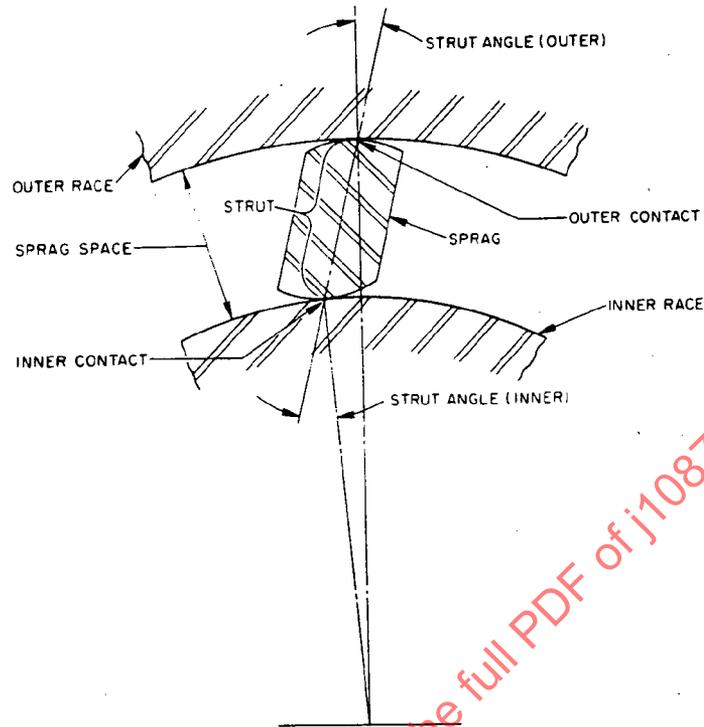

FIGURE 5 - Sprag One-Way Clutch Diagram
- 4.3.1 OUTER RACE: That element which provides the outer cylindrical surface through which the sprags transmit torque. (See Figure 5 through 8).
- 4.3.2 INNER RACE: That element which provides the inner cylindrical surface through which the sprags transmit torque. (See Figure 5.)
- 4.3.3 SPRAG: The cam profiled locking element of the clutch. Several are usually used in each clutch. (See Figures 5 through 8.)
- 4.4.1 SPRAG SPACE: The radial distance between the inner and outer race cylindrical surfaces. (See Figure 5.)
- 4.4.2 STRUT: The straight line connecting the inner and outer contact points. (See Figure 5.)
- 4.4.3 STRUT ANGLE (INNER): The angle between a radial line through the inner contact point and the strut. (See Figure 5.)
- 4.4.4 STRUT ANGLE (OUTER): The angle between a radial line through the outer contact point and the strut. (See Figure 5.)
- 4.4.5 INNER CONTACT: The point of contact between the sprag and the inner race. (See Figure 5.)
- 4.4.6 OUTER CONTACT: The point of contact between the sprag and the outer race. (See Figure 5.)